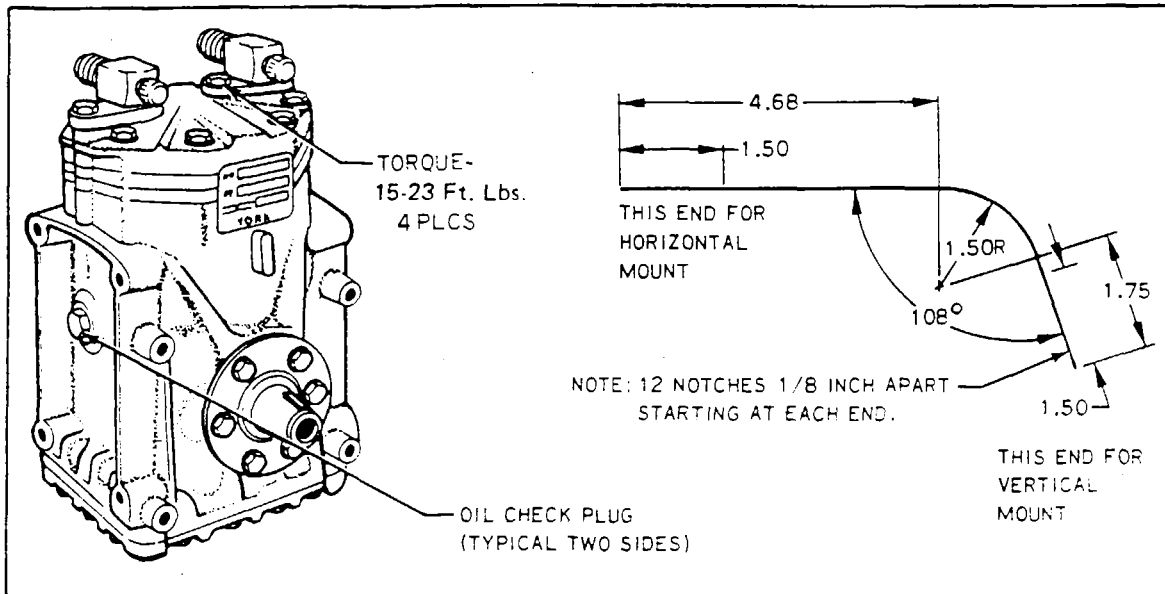

Figure 13-9. Compressor And Fabricated Oil Dipstick
- b. Fabricate an oil dipstick. (Refer to Figure 13-9.)
- d. Before inserting the dipstick, the crankshaft Woodruff key should be located in the up position. (The front face of the compressor clutch is marked with a stamped "K" indicating the key position.) The oil level should be measured from the lowest point in the crankcase. Use the long end of the dipstick. (See Figure 13-9.)